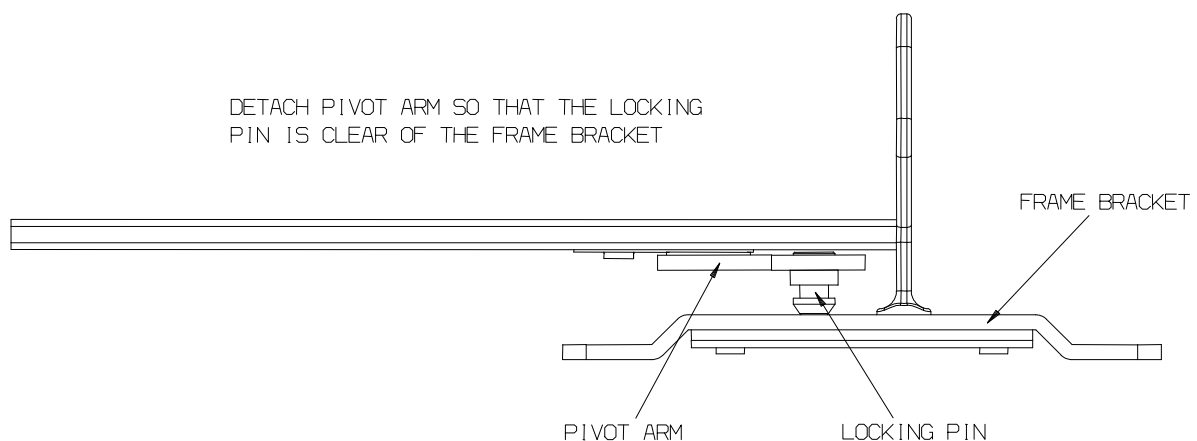

Fig. 8
- 2.1.26 The user then detaches the Pivot Arm clear from the Frame Bracket. See Fig. 8.